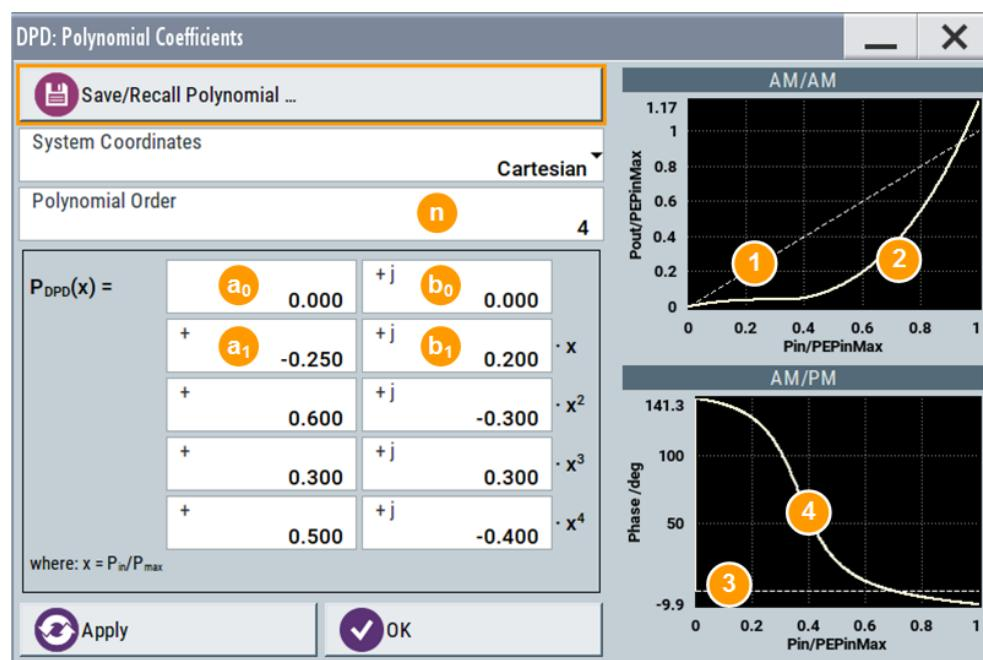

Figure 3-4: Polynomial Coefficients: Understanding the displayed information
- Use, for example, the values shown on Figure 3-4.